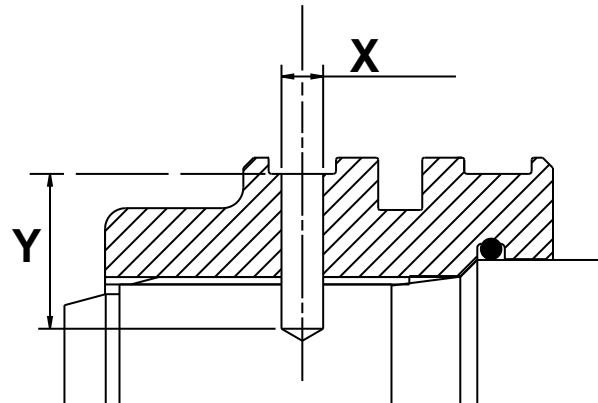

Fig 19.
- a Drill through piston head into piston rod. Use an undersized diameter drill first as a guide and then drill with the correct size diameter drill to suit. ⇒ Fig 19. (□ E25-29) ⇒ Table 10. Drill Diameters and Depths (□ E25-29)